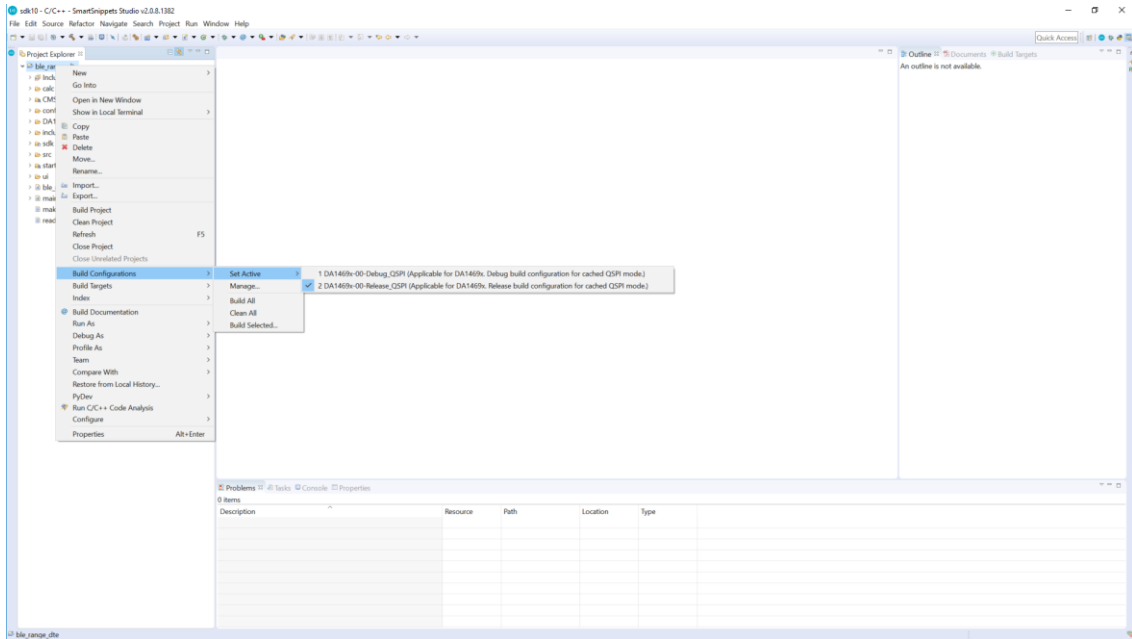

Figure 5: Build Configurations for b1e_range_dte Project
2. Select a build configuration and build the ble_range_dte project (Figure 5). Right-click on the project name to get the project menu and select **Build Configurations > Set Active** to see configuration options.